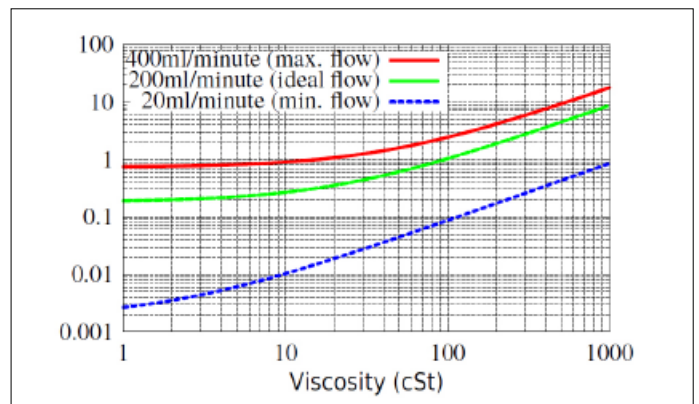

Figure 5.11
- Use the figure 5.11 to look up the pressure drop, across the ICM 2.0 ports, at this flow rate and viscosity. E.g. at 30cSt and 200ml/minute, this is 0.4 bar. The maximum and minimum allowed differential pressures can also be determined using the 400ml/min and 20ml/min lines, respectively.